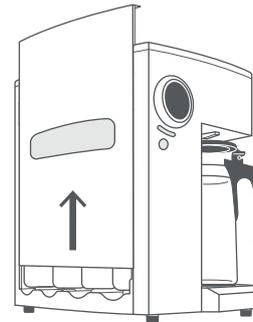

Figure 1
2. Find the edge of the side cover and then pull out the cover (Figure 1).